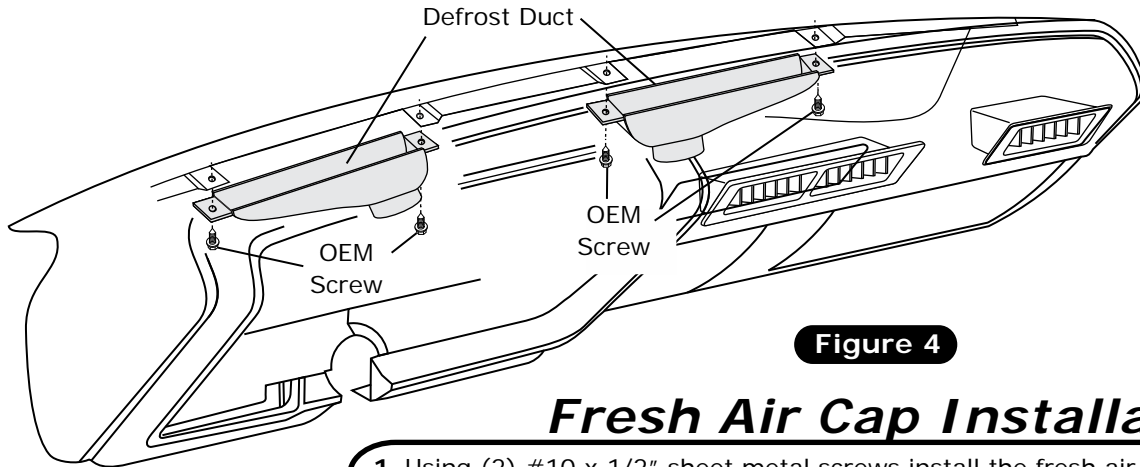

Figure 4
1. Using the OEM mounting screw, install the new defrost ducts as shown in Figure 4, below.